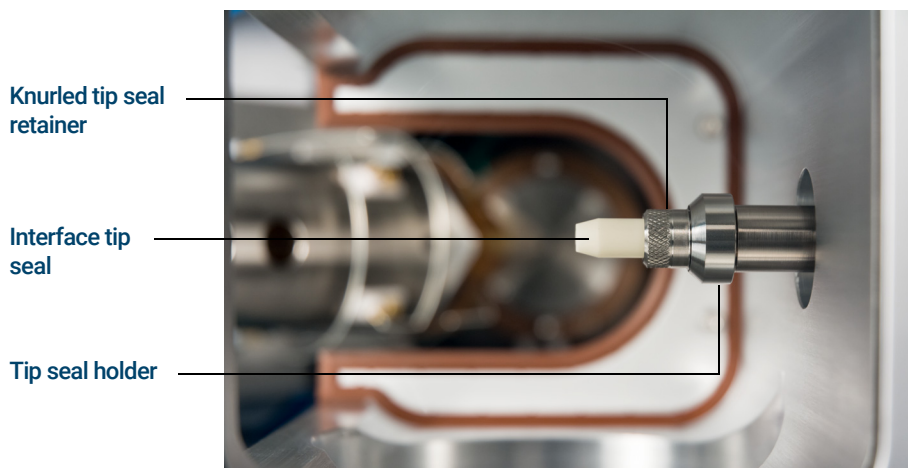

Figure 5. GC/MS interface tip seal
- 4 Remove the interface tip seal, spring, and knurled tip seal retainer from the GC/MS interface. (See **Figure 5**, "GC/MS interface tip seal," on page 34.)